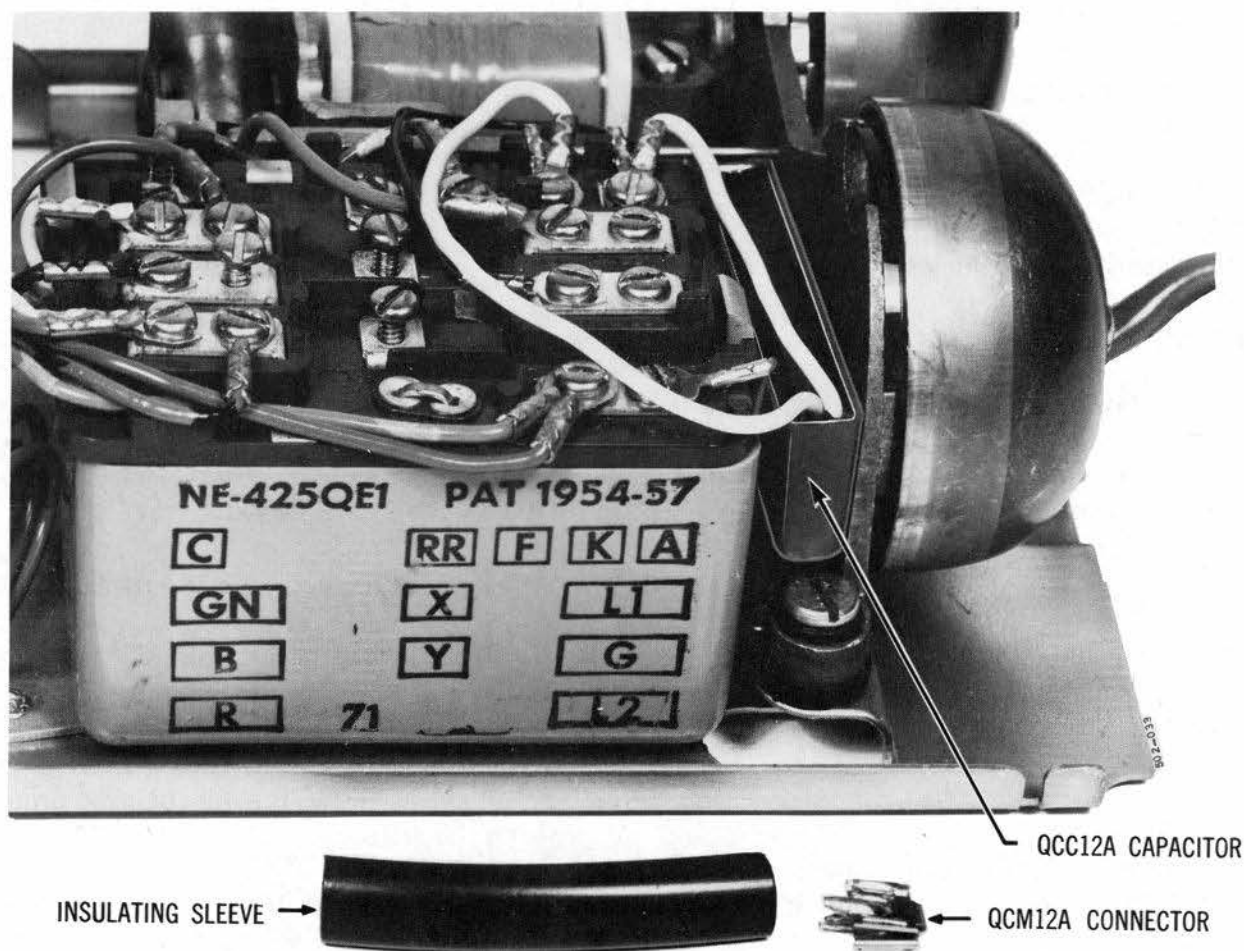

Fig. 17 — Replacing Defective Ringer Capacitor
5.15 An externally-mounted QCC12A capacitor may be used to replace an open or shorted ringer capacitor in the NE-425QE1 network. The ringer capacitor is connected between terminals A and K on the network (Fig. 17).
5.16 When the ringer capacitor is shorted, it is necessary to use a QCM12A connector in conjunction with the QCC12A capacitor. This connector consists of a terminal for connecting two spade-tipped leads together, and an insulating sleeve. (Fig. 17.) Connect one side of the QCC12A capacitor to terminal A of the network; leave the ringer lead of this terminal. Remove the ringer lead from terminal K of the network, and connect it to the other side of the QCC12A capacitor, using the QCM12A connector.